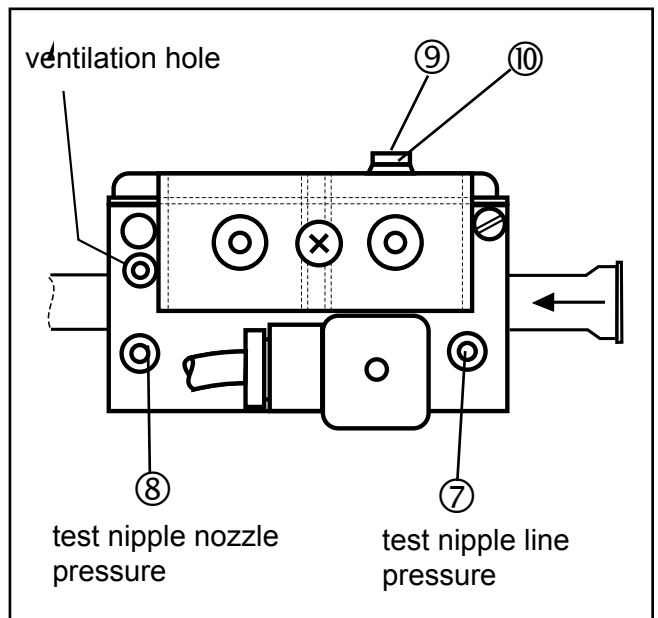

Fig. 12: Top view of the gas combination valve
- ⇒ Open the test nipple (7) (Fig.12).